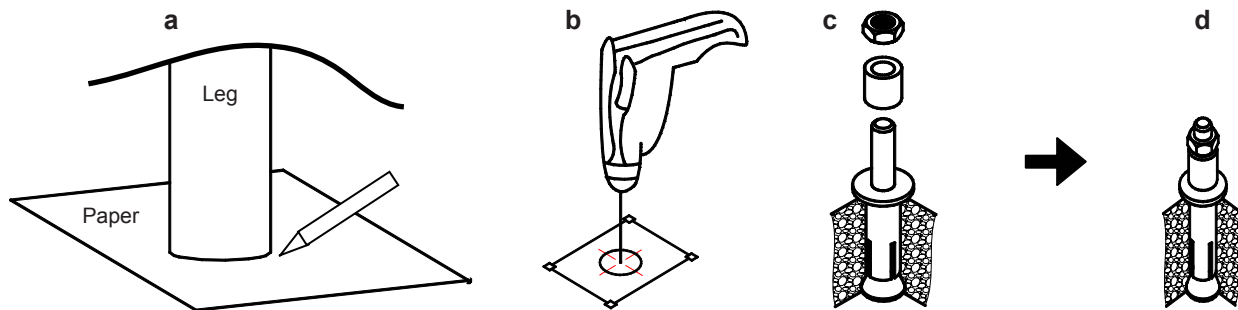

Figure 16. Secure Bath to Pedestal Mount
7. Drill a hole the depth of the screw length for each anchor, see Figure 16.